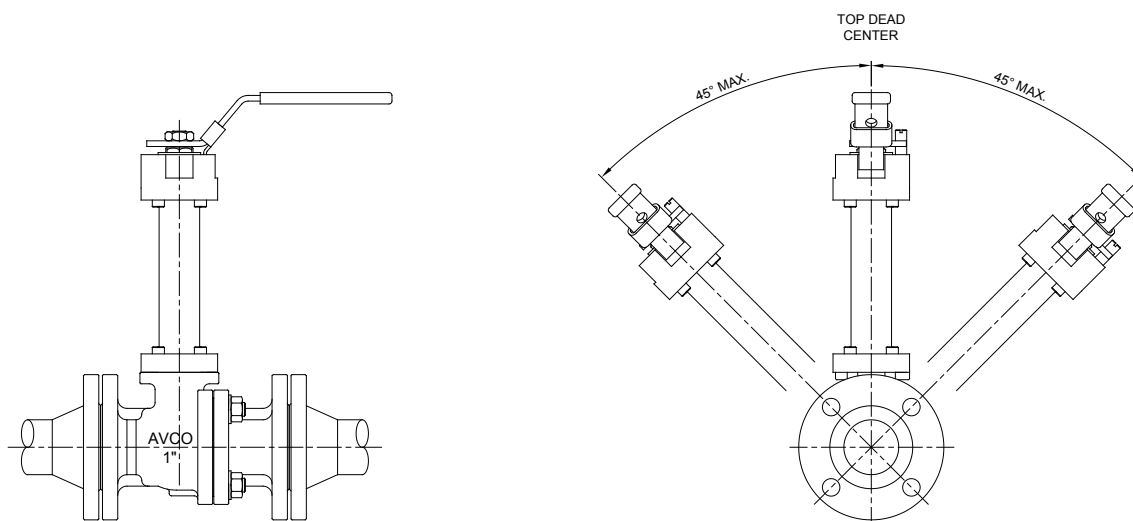

Fig. 1
- 2.4 The orientation requirements shown in fig. 1 shall be observed.
- 5.7 AVCO advises, that where an actuator is used, the valve be installed as shown in fig. 1 and as described in paragraph 1.2 for optimal use and life span.